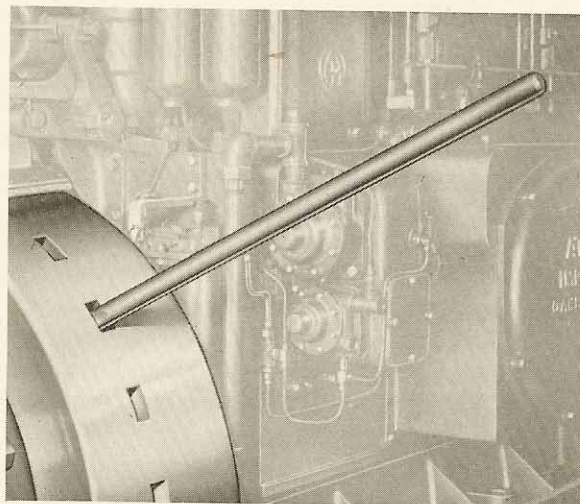

FIGURE 6-2
8. TOOLS AND CRANKING BAR: Take a look to see that there are no tools lying on what will be moving parts when the engine starts. Be sure the cranking bar used for barring the flywheel over is not in the way. See Figure 6-2.